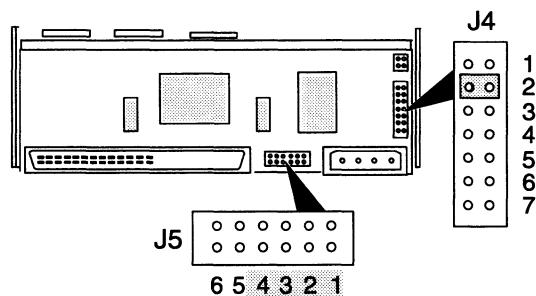

Figure 16 SCSI ID jumper settings and the location of the jumper-pin sets for the Model 61014-W drive (Version B)
2. Once you have chosen the correct SCSI ID number, install the jumpers for that number according to the information in Figure 16.
For example, if you choose SCSI ID 1, install a jumper across jumper-pin set J5-1 as indicated in the table of Figure 16 by the word IN. Do not install jumpers across jumper-pin sets 2, 3, or 4 as indicated by the word OUT.
3. Make sure a jumper is installed across jumper-pin set J4-2 as shown in Figure 16.